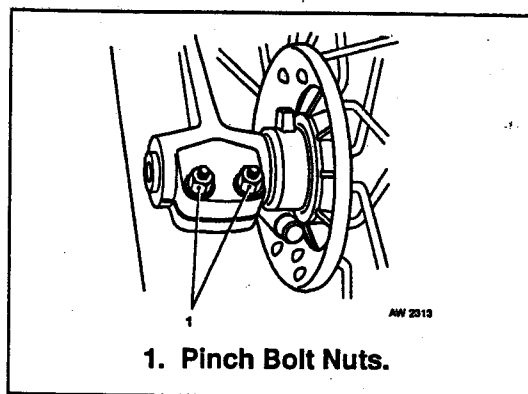

Fig 11.2 Pinch Bolt Nuts
- b. Fig 11.2 refers. Loosen pinch bolt nuts on right slider. Do not remove nuts.
- f. Fig 11.2 refers. Position axle spacer between left side of wheel hub and left slider, then drive axle through spacer and slider, tapping axle with a soft faced mallet.
- j. Fig 11.2 refers. Tighten right slider pinch bolt nuts to 7 Nm (5 ft/lbs).